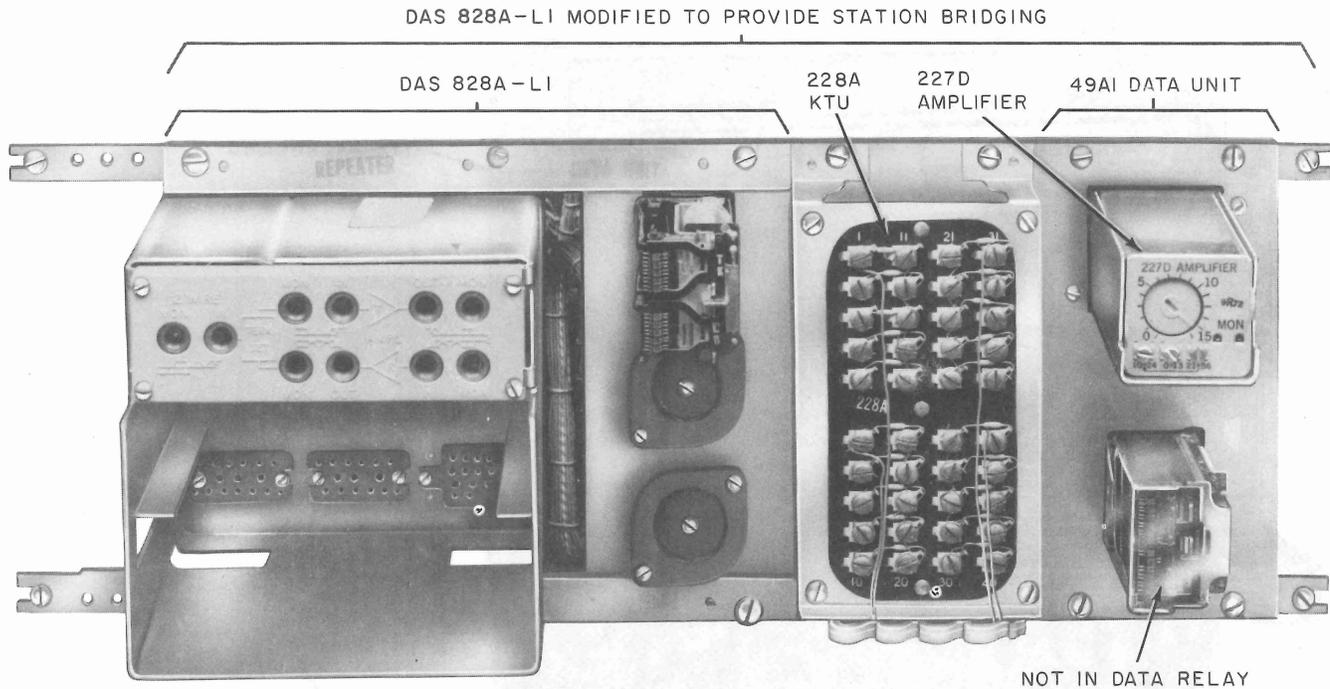

Fig. 6—DAS 828A-L1 Modified for Station Bridging
► **DAS 828A Modified to Provide Station Bridging (Fig. 6)**